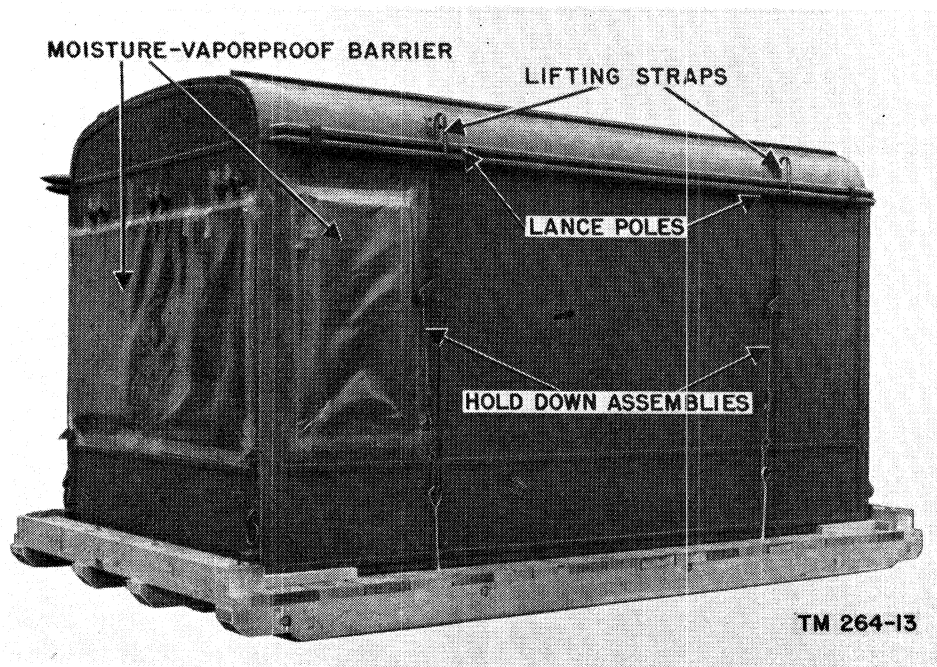

Figure 28. Shelter S 55/GRC on shipping crate platform.
- (3) Repeat (2) above to remove the other side and the ends of the box.
- (4) The openings (windows, door, etc.) in the shelter are covered with moisture-vaporproof barrier secured by adhesive tape (fig. 28). To remove the protective material, loosen a small section of the edge with a sharp object such as a screw driver or a chisel. Grasp the adhesive tape and pull it away from the shelter. The barrier will come off with the tape.
- (5) Unfasten the four hold-down assemblies from the crate platform.
- (6) Enter the shelter and carefully remove the shoring (wooden props) and bags of desiccant (silica gel).
- (7) Remove the straps which hold the separately packaged components (antenna tuning unit, masts, etc.) in position on the floor of the shelter.
- (8) Check the contents of each box against the packing list.
- (9) Remove teletypewriter typing mechanisms from the chests, remove the S-hooks from the carriage, and install the units under the covers on the operating table.
- (10) Remove the package of fluorescent lamps stowed underneath the bench and install five lamps in the ceiling fixtures.
side framing from the truck; drop the tail gate. With all equipment installed, the shelter weighs about 2½ tons. If a suitable hoist is available, lift the shelter by its four lifting straps (fig. 28) and place it on the truck body so that the entrance door is toward the rear of the truck. If no hoist is available, some other method must be devised for raising the shelter to truck level and sliding it on the truck. Skid Equipment MX-157/U, which consists of ropes and two wooden skids, may be obtained for this purpose. Hook the skids to the rear of the truck platform. Attach ropes to the shelter and feed them through the front gate of the truck, one on each side of the cab. Attach the other ends of the ropes to a second truck and pull the shelter up the skids.
b. Attach the hold-down clamps to the truck body sides to hold the shelter firmly in place. There are two clamps on each side of the shelter as shown in figure 28. If the cargo truck has a wooden body, secure the shelter by means of four anchor rings.